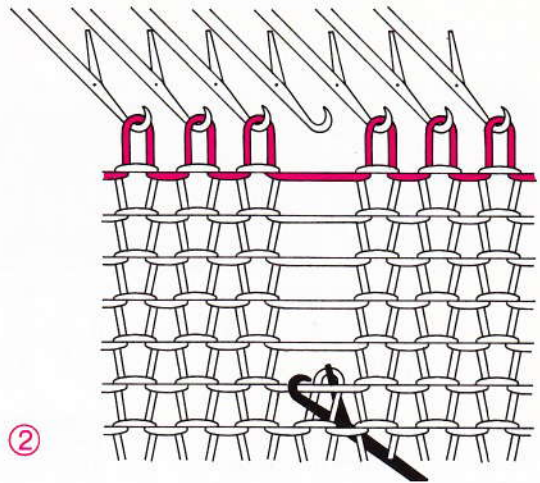

Fig. 219
- Pull the latch tool backwards, the thread is caught in the hook and goes through the stitch. A new stitch is formed (fig. 219).